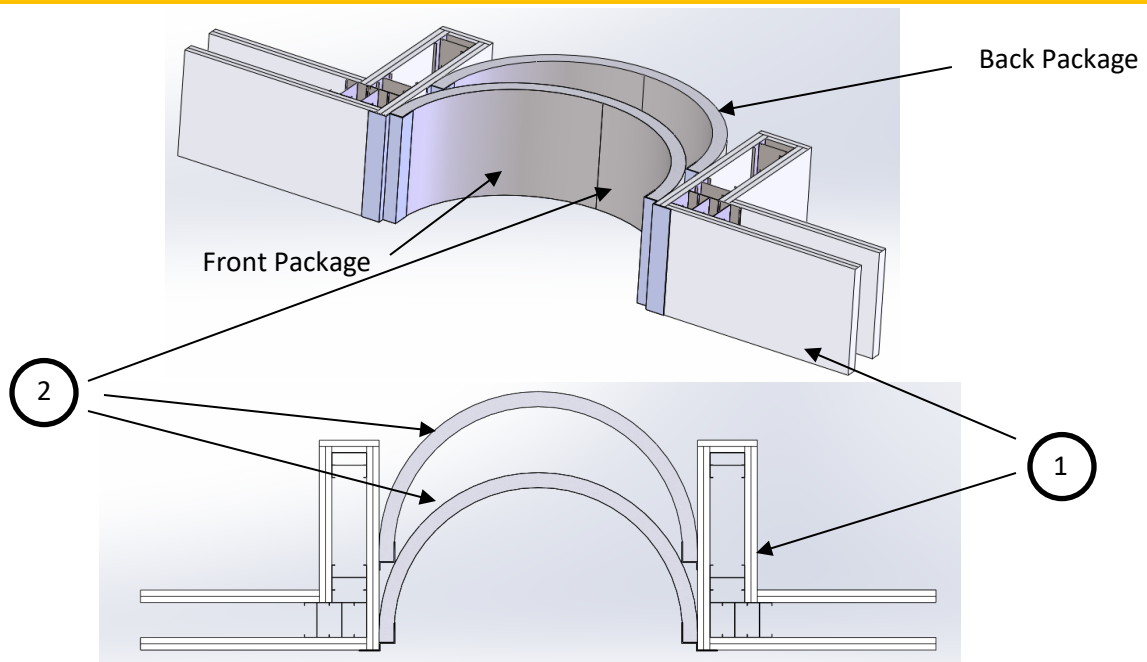

Figure 1. MetaFlex® Pro Shear MAX Wall Joint
A. STEEL FRAMING AND GYPSUM: Use a steel framed, gypsum wall assembly made from min. two layers of 5/8 in. thick, Type X gypsum board, fastened to each side of min. 25 GA steel studs (with min. 3-5/8 in. web and 1-1/4 in. flange) in accordance with the listed fire rated design. Gypsum board must be present in the throat of the joint as shown in Figure 1. Build up the wall on both sides of joint with a min. depth of 21 in. Refer to Figure 1 for stud placement. At the buildup use min. of five studs butted tightly, with no fasteners, together, with two (2) pairs of stud's face to face. Perpendicular within the cavity of the buildup and adjacent to the five studs in the cavity of the main wall, three (3) additional studs are to be fitted tightly together, with 1 pair face to face. At the end of the buildup, install two (2) studs butted together. Do not fasten studs together.
Joint system is comprised of two packages of two layers of blanket. The first interior (back) package is installed nominally 6 in. from the surface of the wall corner. The exterior (front) package is installed flush with the wall. The joint packages may be installed as shown in Figure 1. or installed from the opposite direction.